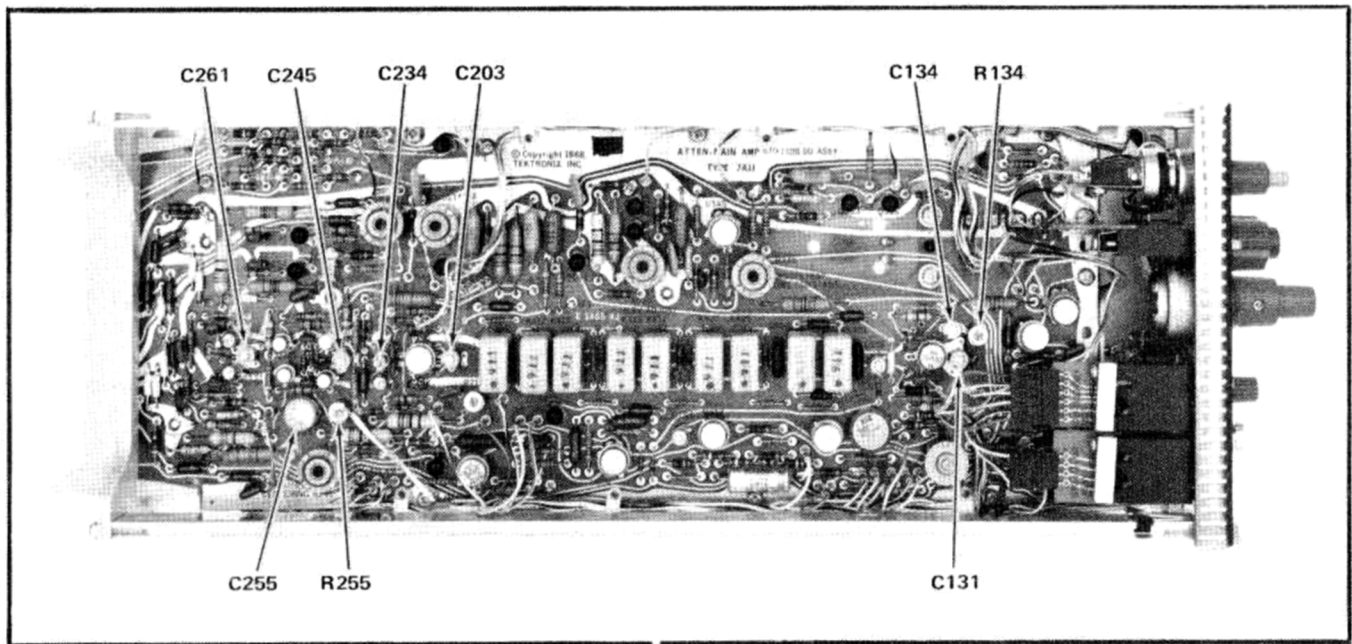

Fig. 5-12. Adjustment locations for step 12.
(6) Adjust the Type 106 Square Wave Generator + Transition Amplitude as necessary to obtain a 5 division display on the Sampling System CRT. (7A11 at 10 mV/Div.) Use the 7A11 POSITION control to center the display.
(7) Perform the adjustments listed in Table 5-6, obtaining an optimum square top-left corner and flat top on the waveform. Adjustment locations are shown in Fig. 5-12.
(15) RE-ADJUST—C255 and R255 (Fig. 5-12) as necessary to make the 7A11 display as nearly like the Calibration Fixture display as possible. Do not change any other transient response adjustment settings. (Re-check the step function through the Sampling System if re-adjustment is done.)